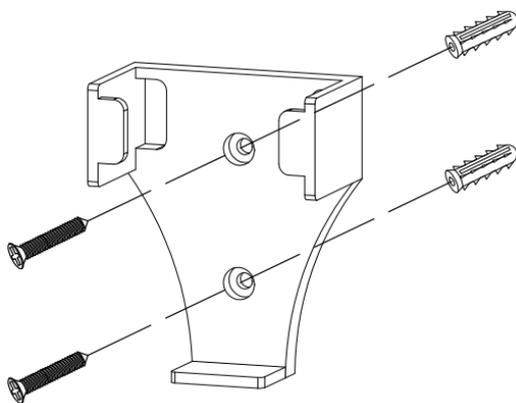

Fig. 7a
1. Locate a suitable wall to fix the remote control holder with the 2 screws & 2 Anchors . (Fig.7a).